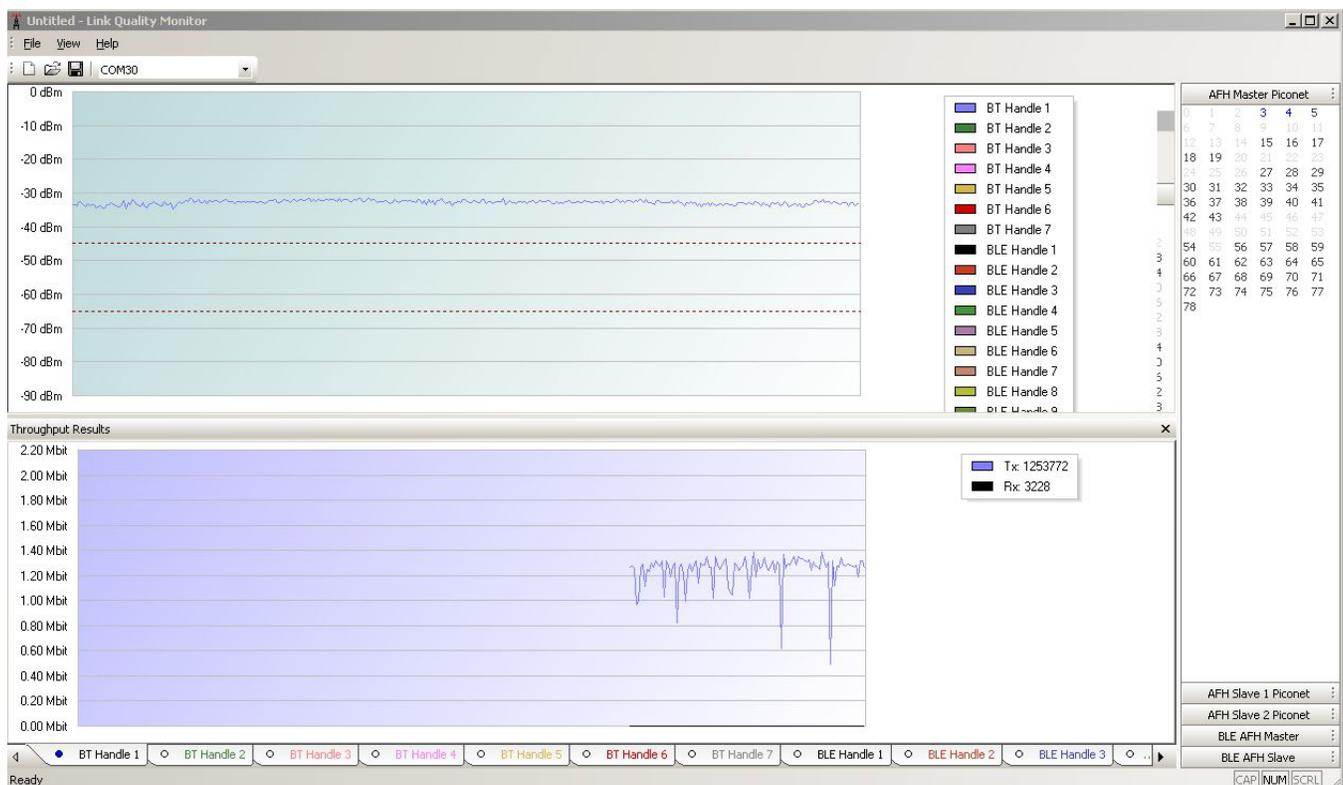

Figure 26. LQM Main Window
2. The LQM main window displays with the following panes (see Figure 26):